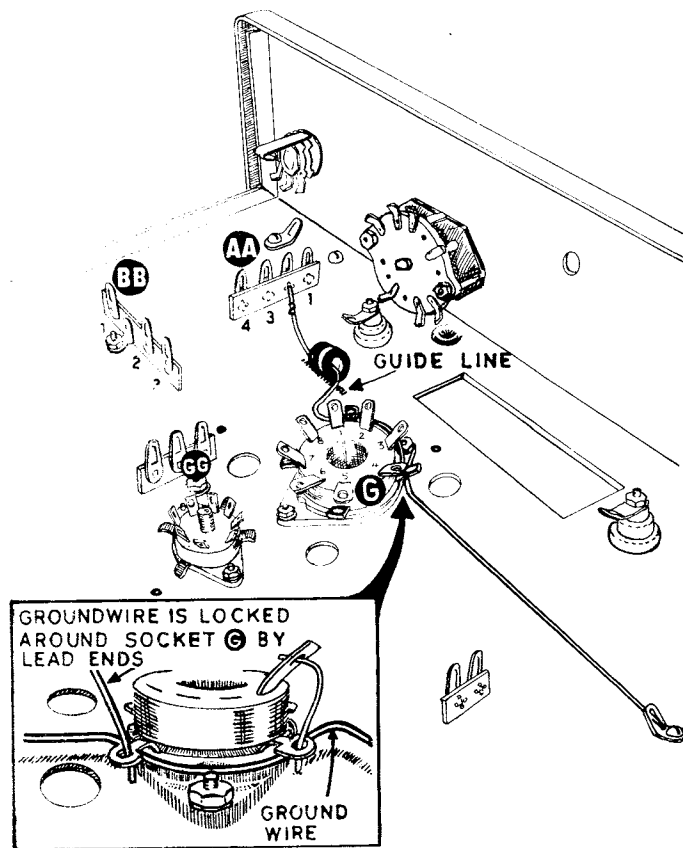
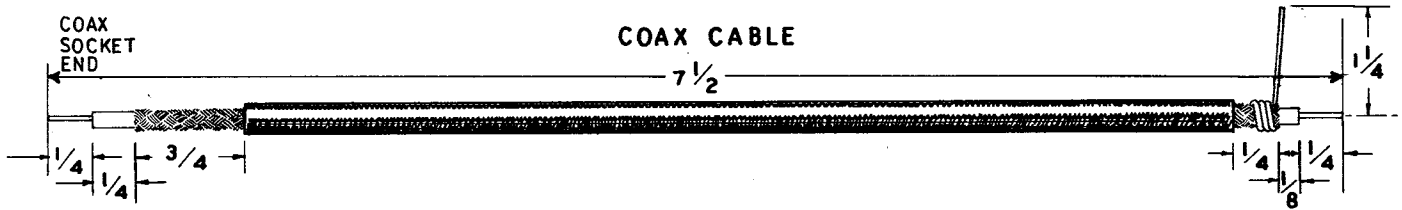

Figure 9
Figure 11
- () Cut a piece of #14 bare wire 7 1/8" long. Connect one end through the bottom hole of the grounded lug #2 on AA. See Figure 9. Slip a 5/16 rubber grommet over the free end and maintain the position of the grommet over the 1/2" mark on the chassis. Continue over and insert the wire 1/8" through the solder lug which is located between HH and II. Solder just this solder lug connection.
- () Form this RF ground lead as shown in Figure 9. Press the wire tight around socket G and under ground lugs #1 and #4. Provide room for other leads to ground to lugs #1 and #4. Allow this grounded wire and the grommet to pass directly over the 1/2" mark on the chassis.
- () Cut a piece of gray hookup wire to 7" long. Connect one end to #7 on the operation switch (S-1). Thread the other end through the 5/16" grommet, that contains the #14 wire RF ground lead and down through another 5/16" grommet next to socket G. Connect to the bottom terminal of the 2.5 MH RF choke (NS). See Pictorial 4.
- () Cut the leads on a 47 μ μ f (yellow-violet-black) silver mica capacitor to 1/4" long. Connect one end through the (close to socket) hole of pin #5 on socket G (NS). Connect the other end to the (close to socket) hole of pin #8 (S-2).
- () Trim the leads on a .002 μ f disc capacitor to 3/8" long. Connect one end to ground lug #1 on socket G (NS). Connect the other end to the (close to socket) hole of pin #1 (S-1).
- () Trim the leads on a .002 μ f disc capacitor to 3/8" long. Connect one end to ground lug #1 on socket G (NS). Connect the other end to the (close to socket) hole of pin 2 (S-2).
- () Solder the end of the RF ground wire just where it connects to #2 on AA. See Figure 9.
- () Trim the leads on a .001 μ f 1 kv disc ceramic capacitor to 3/8" long. Connect one end to ground lug #2 on socket G (NS). Connect the other end through the (close to socket) hole of pin #3 on socket G (NS).
- () Trim the leads on a .002 μ f disc capacitor to 3/8" long. Connect one end to ground lug #2 on socket G (NS). Connect the other end to pin #4 (hole close to socket) on socket G (S-1).
- () Trim the leads on a .002 μ f disc capacitor to 3/8" long. Connect one end to pin #6 (hole close to socket) on socket G (NS). Connect the other end to ground lug #3 (S-1).
- () Cut a piece of gray hookup wire to 3 3/4" long. Trim the insulation 1/4" off each end. Connect one end to pin #6 on socket G (S-2). Thread the other end through the 5/16 grommet and connect to #3 on AA (NS).
- () Trim the leads on the .67 Ω 1% precision resistor to 1/2" long. Connect one end to #3 on AA (NS). Connect the other end to #1 on AA (NS).
- () Cut a piece of yellow hookup wire to 4 1/2" long. Trim the insulation 1/4" off the ends. Connect one end to #1 on AA (NS). Run this lead along with the wiring cable to just beneath the key jack. Bend the lead up and connect to key jack terminal #1 (NS).
- () Cut the leads on a 47 K Ω (yellow-violet-orange) 2-watt resistor to 3/4" long. Connect one end to key jack terminal #1 (NS). Connect the other end to terminal #3 (NS). Maintain the resistor position close to the chassis front apron.
- () Trim one lead on a .002 μ f disc capacitor to 3/8" and the other 7/8" long. Connect the long end through key jack terminal #2 and #3 (NS). Connect the short end to terminal #1. Check Pictorial 2 to be sure, then solder #1, #2, and #3.
- () Prepare the coaxial cable as shown in Figure 11, using a sharp knife. In cutting the shield braid, be careful not to cut through the inner insulation. When soldering the outer braid, solder quickly to prevent melting the inner insulation. The ground lead is #20 wire.